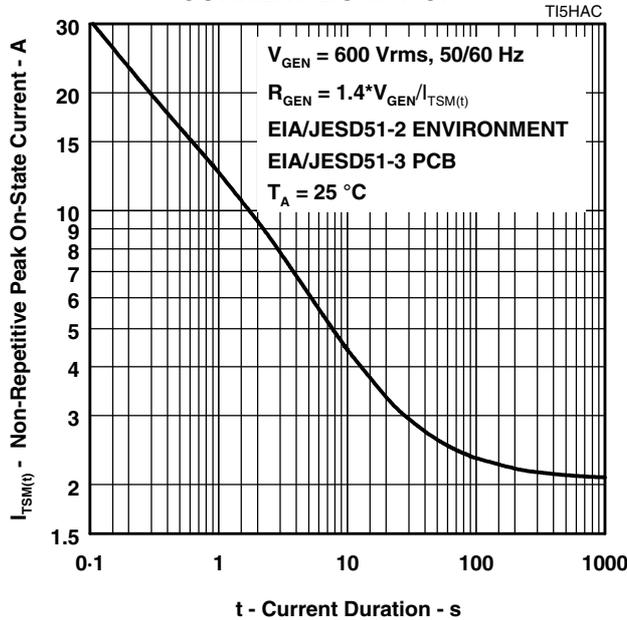

Figure 8.
5. EIA/JESD51-2 environment and EIA/JESD51-3 PCB with standard footprint dimensions connected with 5 A rated printed wiring track widths. See Figure 8 for the current ratings at other durations. Derate current values at $-0.61\text{ }^\circ\text{C}$ for ambient temperatures above $25\text{ }^\circ\text{C}$
The protector can withstand currents applied for times not exceeding those shown in Figure 8. Currents that exceed these times must be terminated or reduced to avoid protector failure. Fuses, PTC (Positive Temperature Coefficient) resistors and fusible resistors are overcurrent protection devices which can be used
to reduce the current flow. Protective fuses may range from a few hundred milliamperes to one ampere. In some cases it may be necessary to add some extra series resistance to prevent the fuse opening during impulse testing. The current versus time characteristic of the overcurrent protector must be below the line shown in Figure 8. In some cases there may be a further time limit imposed by the test standard (e.g. UL 1459 wiring simulator failure).